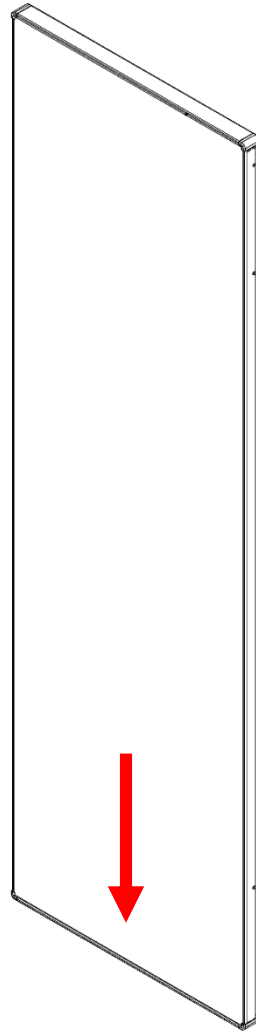
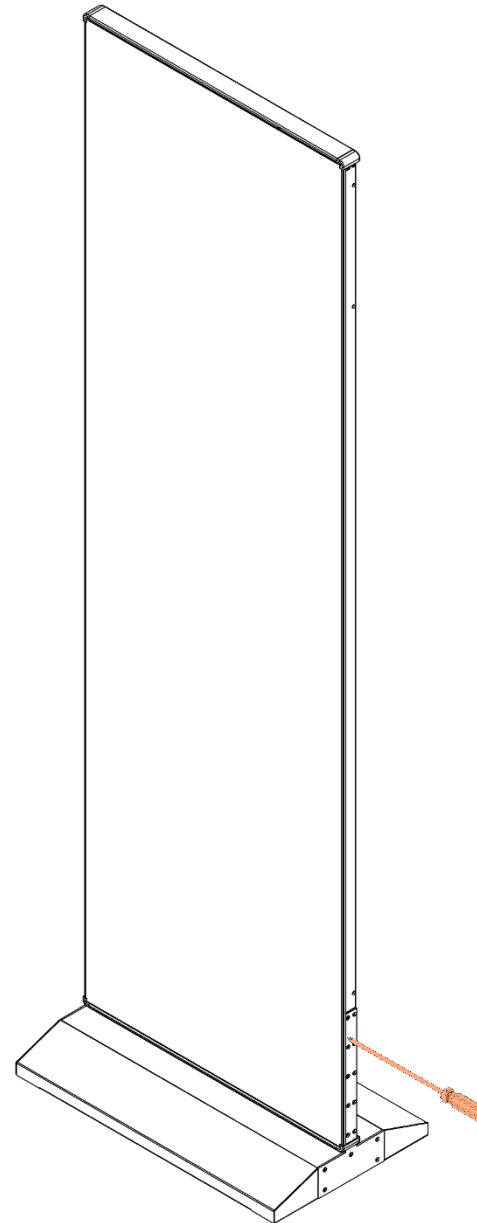

fig 5.4
fig 5.5
- ⑥ Insert the display to the base vertically and fix it to the support poles by screws. Please refer to fig 5.4 & fig 5.5.